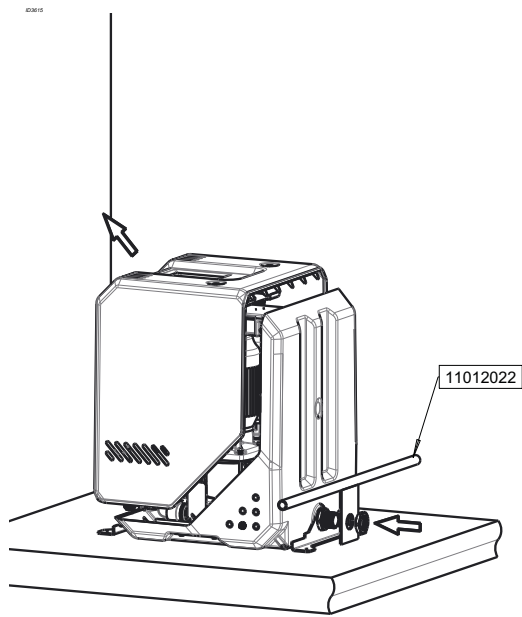

Figure 10: (Dis)assemble vertical
- remove the hood angled, see fig. 10 (Dis)assemble vertical.